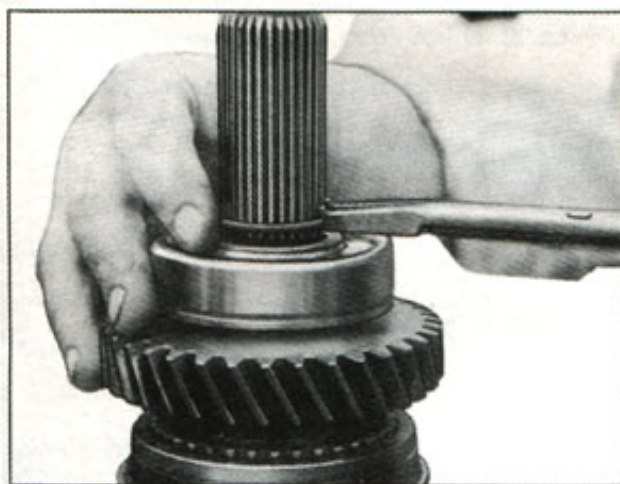

Fig. 9—Removing Rear Bearing Snap Ring
3. Remove rear bearing-to-mainshaft snap ring (Fig. 9).